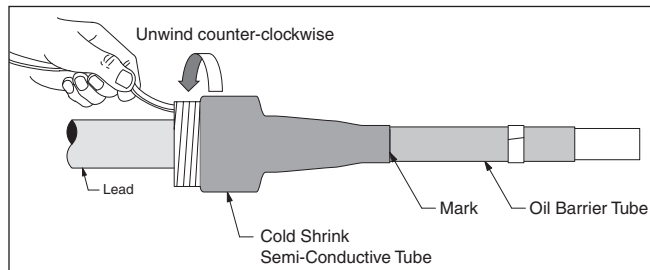

Figure 9
- 3.10 Position the cold shrink semi-conductive tube (approx. 5" [127 mm] long on core) over oil barrier tube with ribbon tab towards PILC cable. Align end of tube (not core) with mark on oil barrier tube. Install by unwinding ribbon tab counter-clockwise, carefully maintaining alignment with mark (Figure 9).